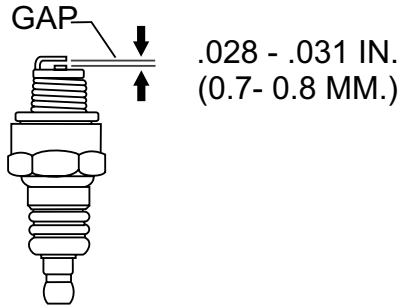

Figure 26. Spark Plug Gap
- Remove and clean spark plug (Figure 26) with a wire brush if it is to be reused. Discard spark plug if the insulator is cracked or chipped.